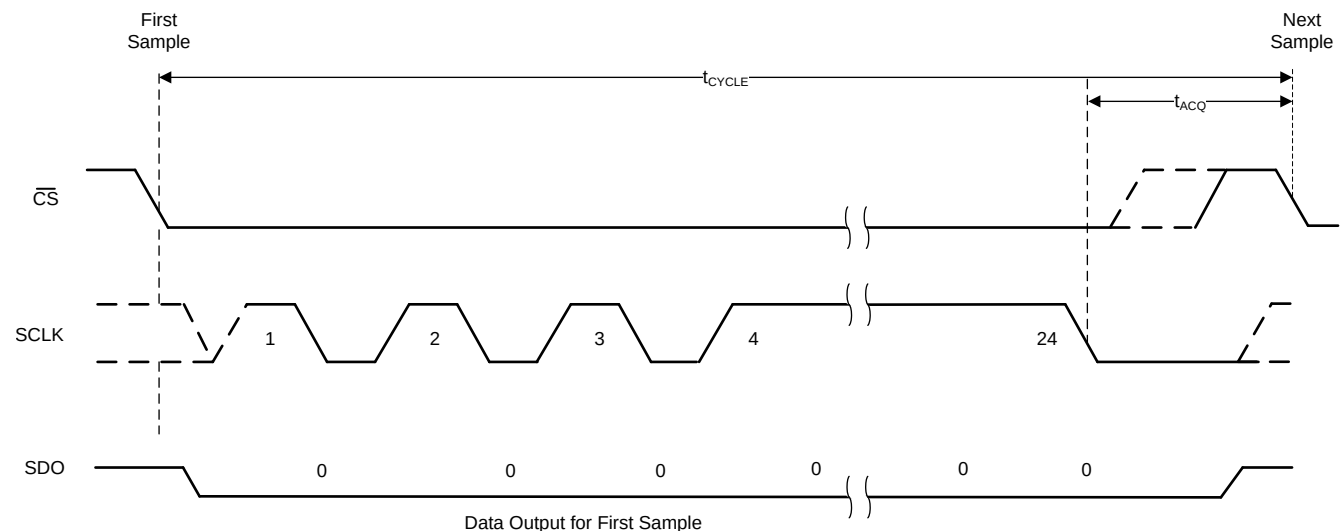
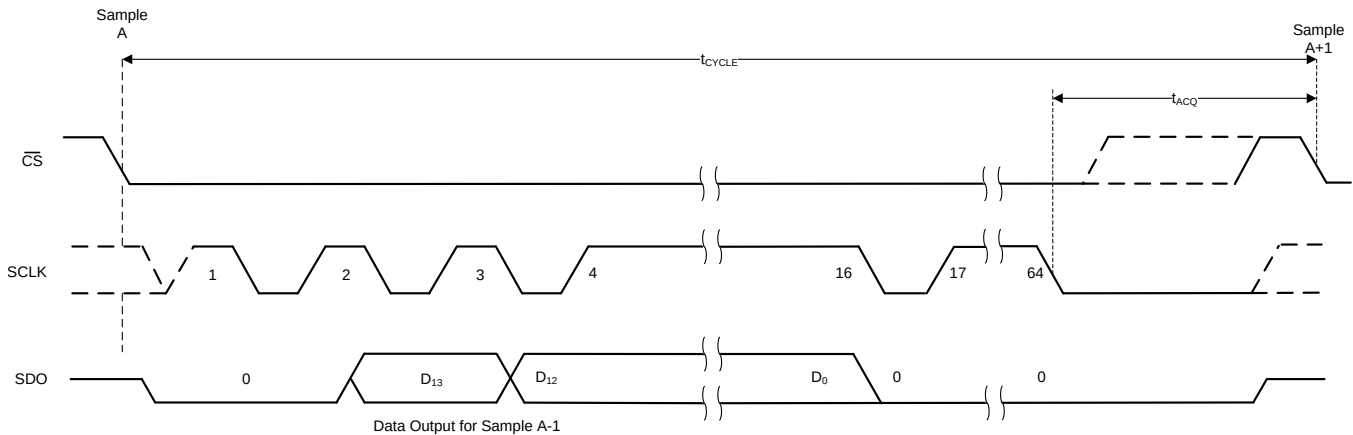

**Figure 38. Timing for Offset Calibration on Power-Up**
**Figure 39. Timing for Offset Calibration During Normal Operation**
The host controller must provide a serial transfer frame as described in Figure 38 or in Figure 39 to enter the OFFCAL state.
If the host controller starts the offset calibration process but then pulls the  $\overline{CS}$  pin high before providing 24 SCLKs, then the offset calibration process is aborted and the device enters the ACQ state. Figure 38 and Table 3 provide the timing for offset calibration on power-up.
(1) In addition to the timing specifications of Figure 38 and Table 3, the timing specifications described in Figure 2 and the Timing Requirements table are also applicable for offset calibration on power-up.
If the host controller provides more than 18 SCLKs but pulls the  $\overline{CS}$  high before providing 64 SCLKs, then the offset calibration process is aborted and the device enters the ACQ state. Figure 39 and Table 4 provide the timing for offset calibration during normal operation.
- (1) In addition to the timing specifications of Figure 39 and Table 4, the timing specifications described in Figure 2 and the Timing Requirements table are also applicable for offset calibration during normal operation.